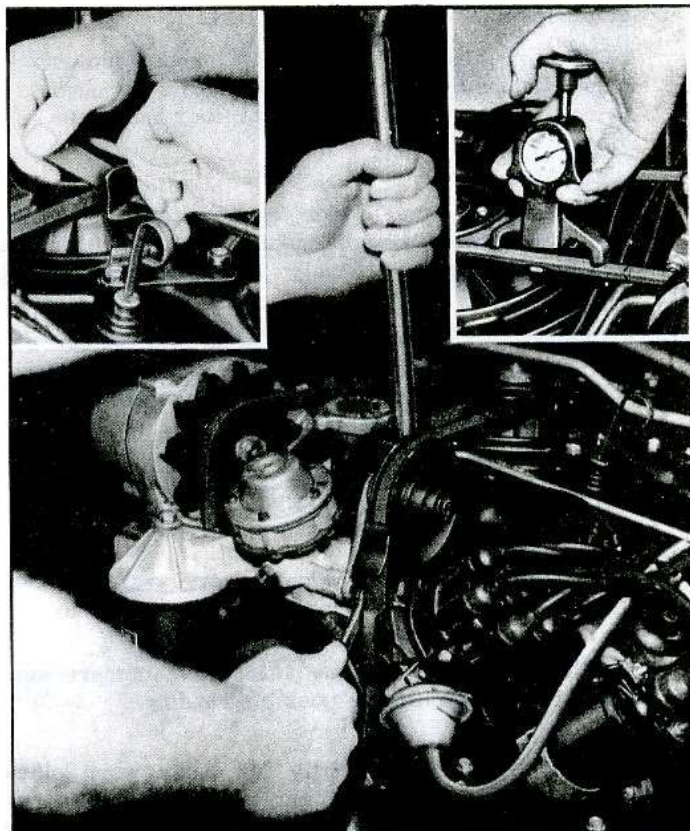

Fig. 4—Blower Belt and Guide Adjustment
- Place a 1/16" shim between belt and rear guide (fig. 4), then using a bar and a strand tension gauge adjust blower belt. Fifty-five lbs. \pm 5 lbs. (used belt), 75 lbs. \pm 5 lbs. (new belt) and tighten securely.
- Remove shim from between blower belt and rear guide and using shim as a gauge adjust upper guide (fig. 4) and tighten securely.